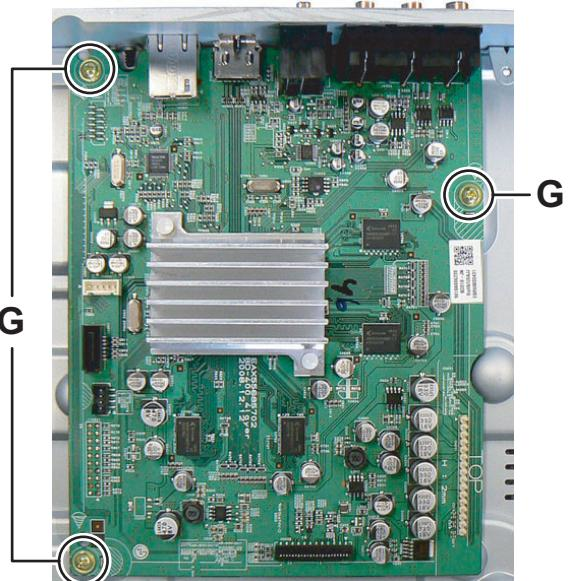

Fig.9
- (3) Remove the three screws **G** attaching the Main board. (See Fig.9)